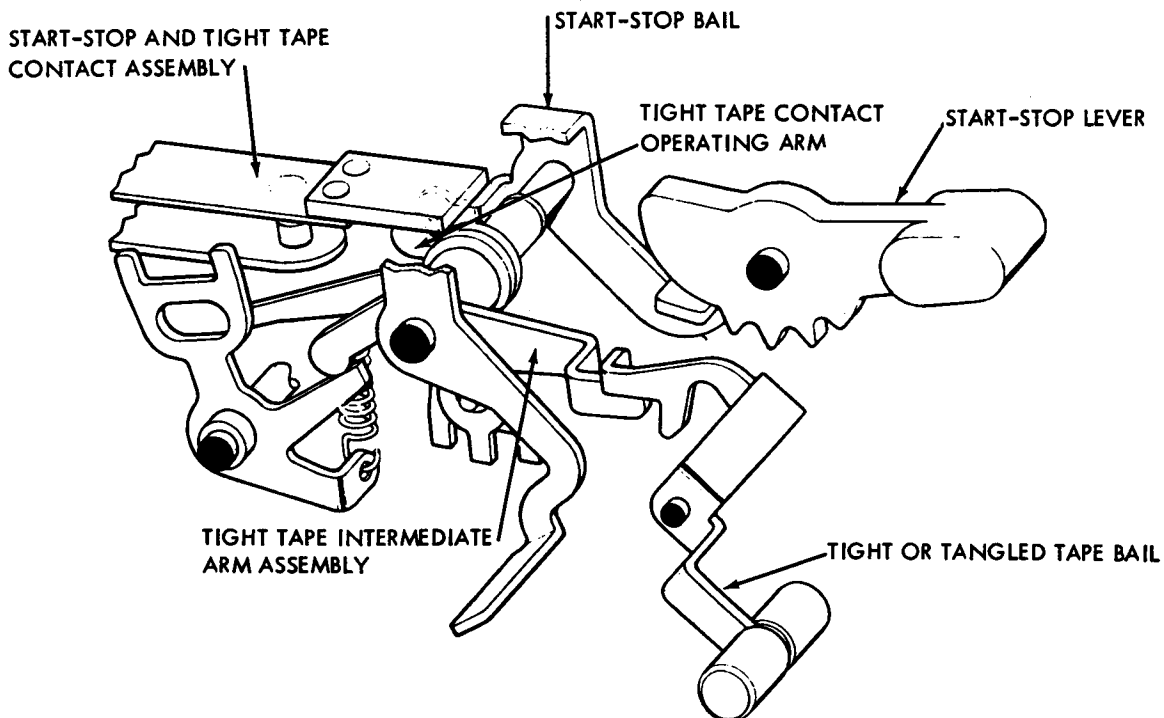
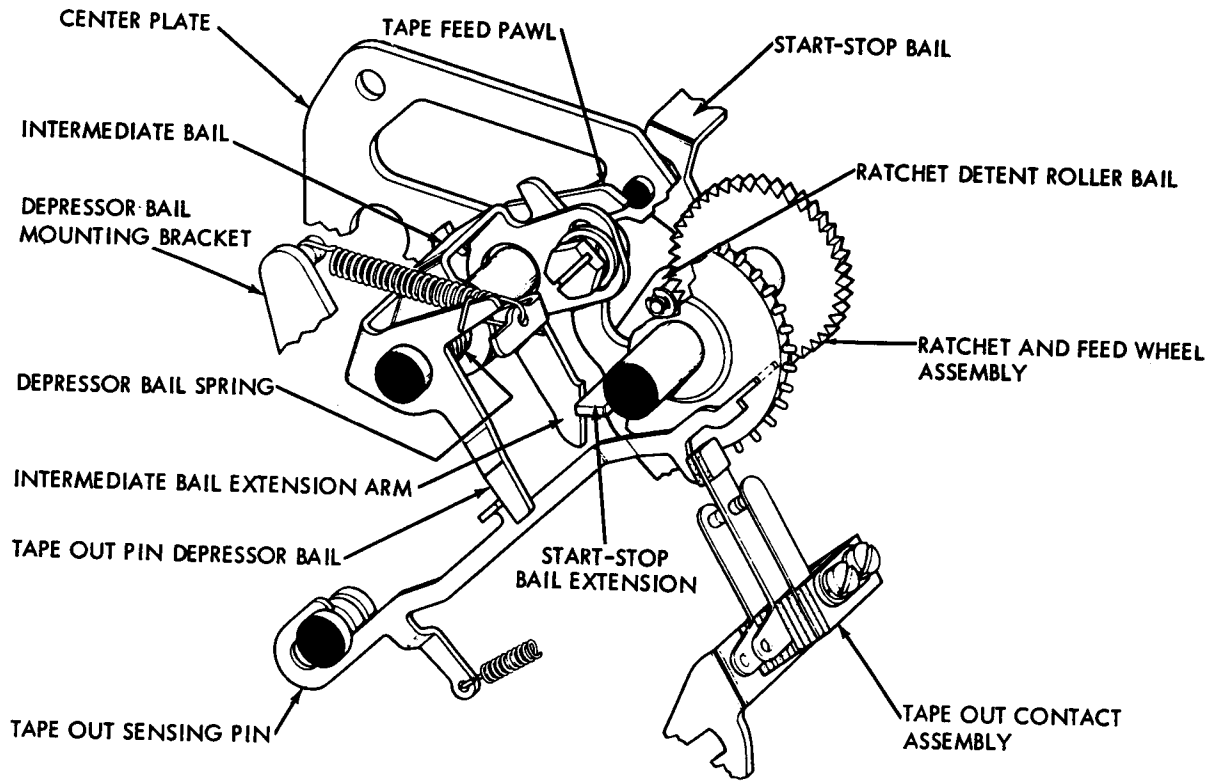

Figure 4-5. Start-Stop Lever and Tight Tape Switch Mechanism
Figure 4-12. Free Wheeling and Tape-Out Mechanism
(1) When the start-stop lever is moved to the right, the camming surface of the lever (figure 4-5) allows the start-stop bail to move upward. As the bail pivots on its mounting, the left extension of the
(2) FREE-WHEELING FEED WHEEL. (See figure 4-12.) — When the start-stop lever (figure 4-5) is pushed to the extreme left position, the start-stop bail is rotated clockwise. The bail extension pushes the feed pawl and the ratched detent roller out of engagement with the feed ratchet, allowing the feed wheel to rotate freely (figure 4-12). The bail extension also contacts the intermediate bail, which rotates clockwise, permitting the torsion spring loaded depressor bail to rotate, moving the tape-out pin depressor bail extension to depress the tape-out pin flush with or below the tape guide plate. This permits free passage of the tape under the tape lid. Since the start-stop tight tape contacts are opened in establishing conditions for free-wheeling tape feed, the clutch magnets are de-energized, and the distributor-transmitter is in an idling condition. Positioning of the tape must be done manually. Release of the start-stop lever to its "STOP" position returns the tape feed pawl and detent roller into contact with the ratchet and releases the tape-out sensing pin, conditioning the equipment for operation when the start-stop lever is again moved to the right.
(3) TAPE-OUT SWITCH MECHANISM. (See figure 4-12.) — A tape-out sensing pin is located on the tape guide plate to the right and slightly forward of the five tape sensing fingers. An extension near the top of the sensing pin raises the swinger of the normally open tape-out contact when the spring loaded pin protrudes above the guide plate. When the pin is depressed, the swinger is released to close the contacts and close the clutch magnet circuit at this point.
(4) TIGHT TAPE SWITCH MECHANISM. (See figure 4-5.) — Tight or tangled tape raises the tight tape lever on the tape guide lid, rotating the tight tape bail counterclockwise. The bail arm pivots the intermediate arm clockwise, raising the contact arm upward, to lift the swinger of the start-stop tight tape contact upward to open the clutch trip circuit to stop transmission. Transmission will be resumed automatically when the condition is remedied, since the start-stop switch remains in operating condition through the interruption in transmission.